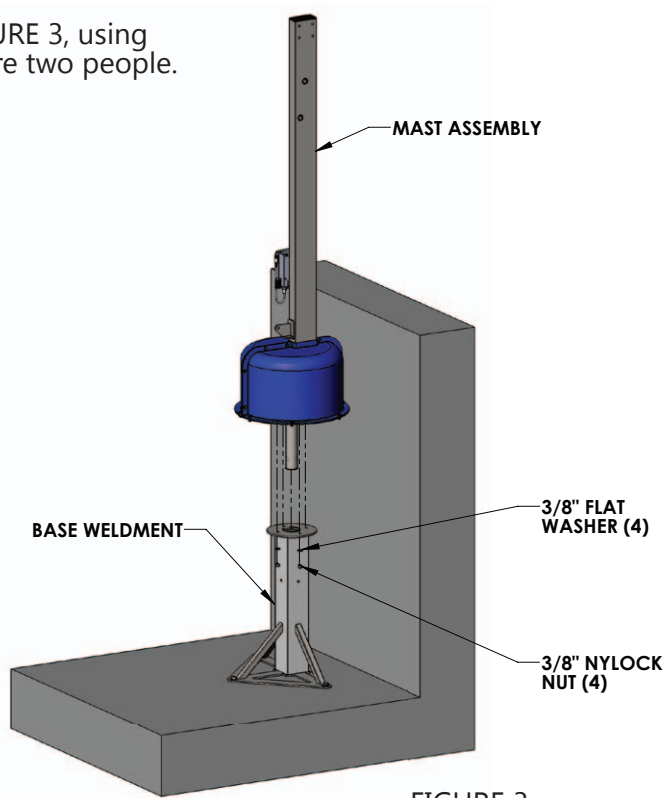

FIGURE 3
**2.** Attach the mast assembly to the base, as shown in FIGURE 3, using the 3/8 inch nylock nuts and flat washers. This may require two people.